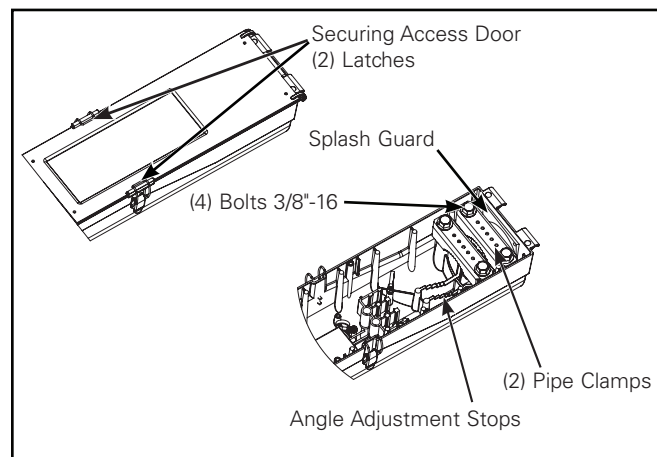

Figure 3.
**Note:** If optional lanyard is supplied, the door should not be removed. (Figure 3.)
3. Using a 9/16" socket, loosen the four pipe clamp mounting bolts enough to allow mounting arm (not included) to slide onto leveling steps. (Figure 3.)
4. Lift the housing into place and position end of mounting arm onto leveling steps so that housing is level. Care must be taken so arm does not inadvertently strike internal components. (Figure 3. & Figure 4.)